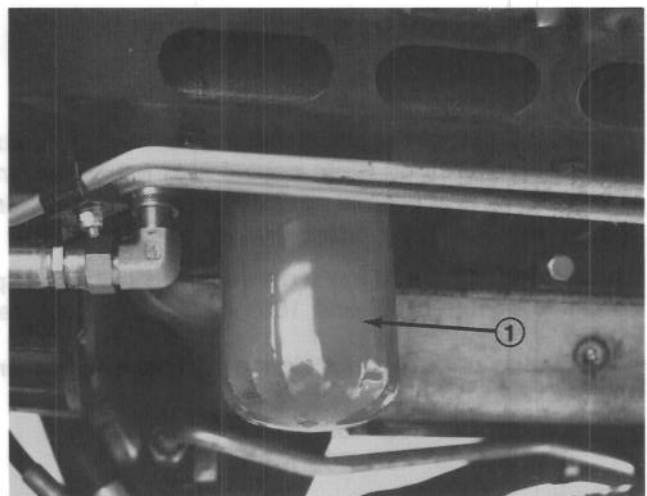

Figure 48
REPLACING HYDRAULIC FILTER (Fig. 48)
2. Clean area around filter mounting area (Fig. 48). Place drain pan under filter and remove filter.